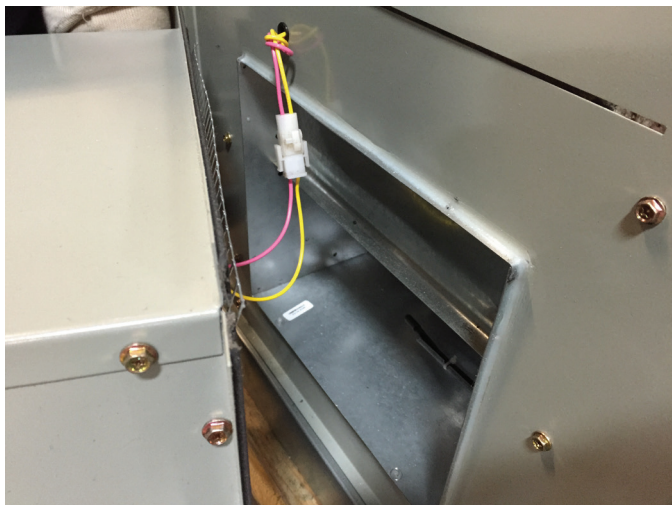

Figure 2
1. Install exhaust hood assembly shipped with ERV on pallet using screws provided in accessory box. On units with motorized exhaust damper connect Plug (P.161) to jack after removing PK-3 jumper before attaching hood with screws. **See Figure 2.**